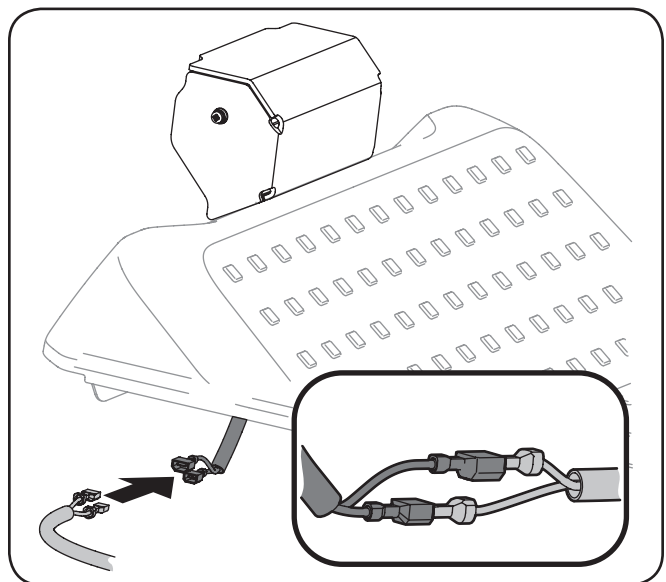

Figure 1-10
12. Connect the headlight harness adapter to the headlight harness as shown in Figure 1-10.